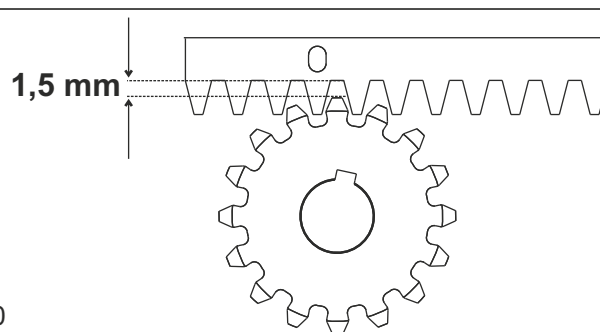

Fig. 10
**5.6.** To avoid that the gate weights down the pinion (Fig.10) lift up the whole rack about 1,5 mm.